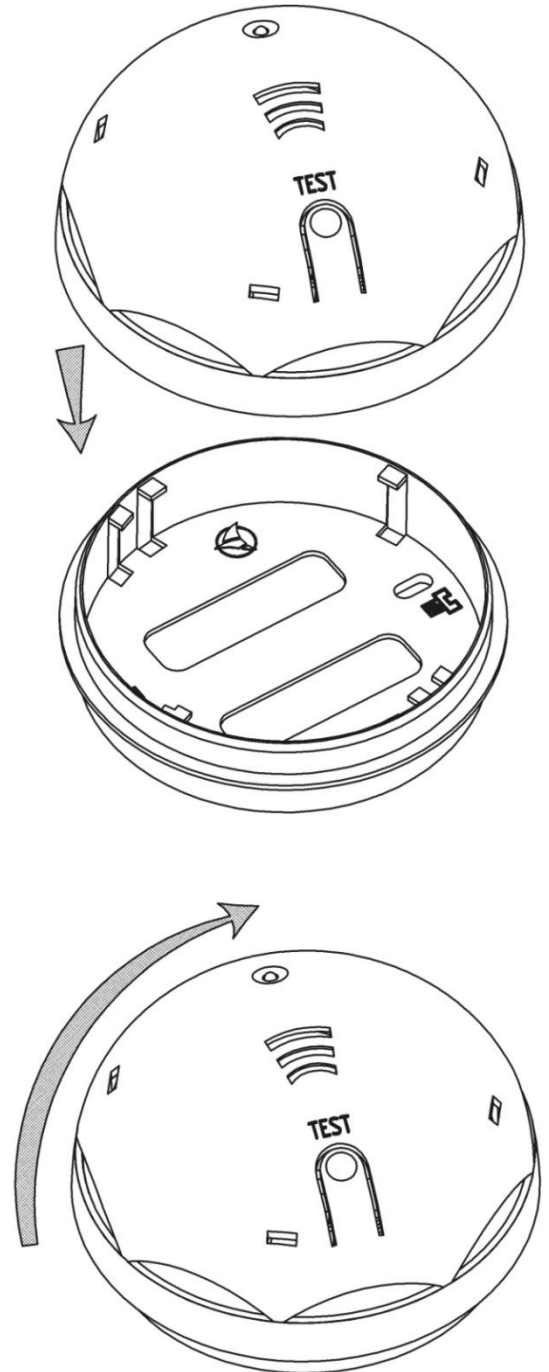

Fig. 2. Adjusting the smoke detector in the base
5.4.1 Adjust the smoke detector in the base as in Fig. 2.